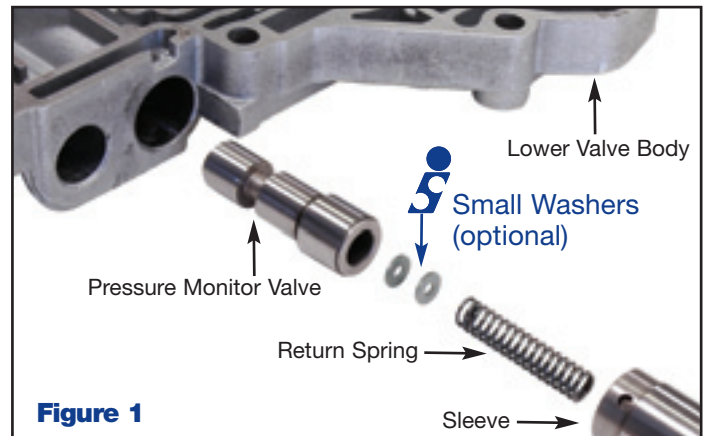

Figure 1
1. The 2 smaller (.312" OD) washers may be installed at the pressure modifier valve to increase line rise. Refer to Figure 1 for correct location.